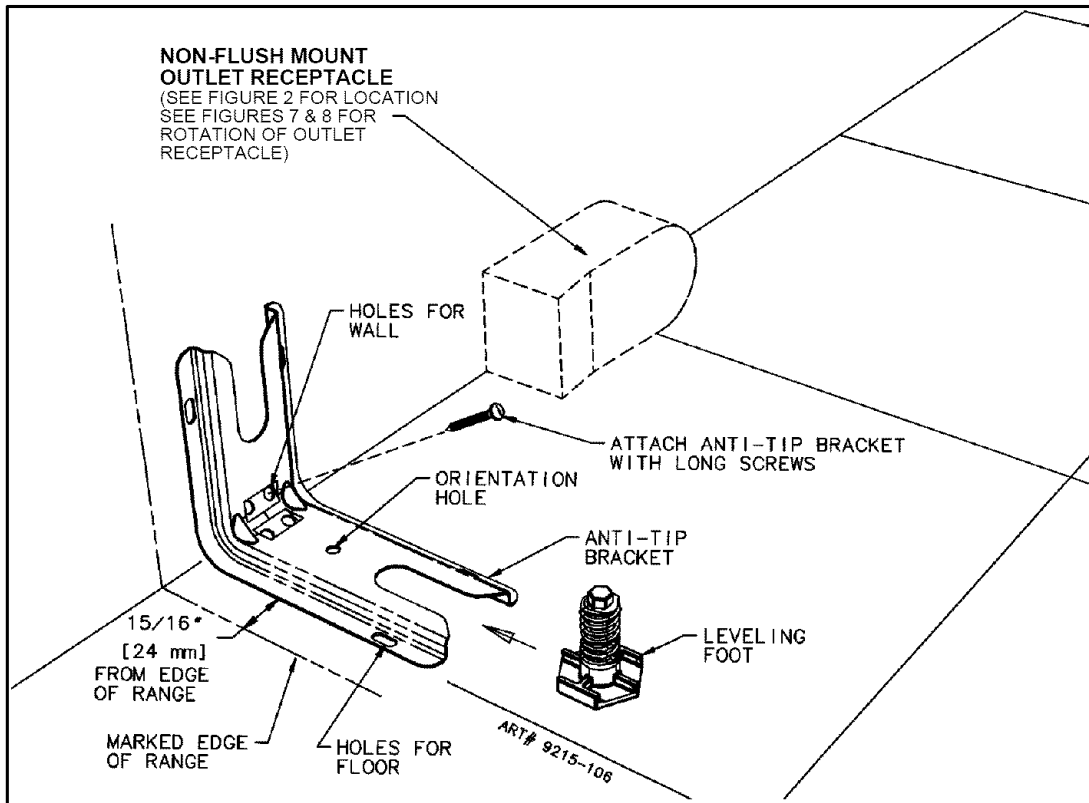

FIGURE 4
Locating The Anti-Tip Bracket (See Figure 4)
If the outlet receptacle must be mounted as shown in figure 4, the range will not push back against the wall.
B. Place the bracket 15/16" (24 mm) from the marked "EDGE" toward the center of opening and against the back wall as shown in figure 4, with orientation hole against floor.
C. Use the bracket as a template and mark the required holes as shown in figure 4 for the type of construction you will be using.